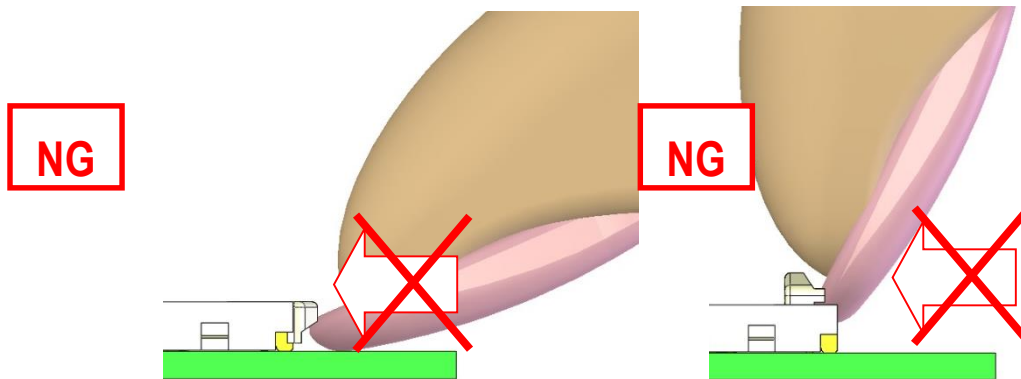

Fig.13 To release actuator (NG)
- ② Pull the both ends of the pull bar which put up perpendicularly parallel to a board as shown in Fig.13.